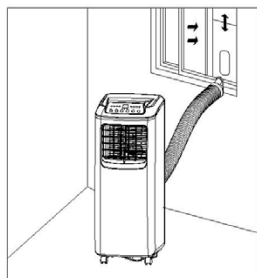

Figure 8
- 2). Snap the flat end of the heat exhaust hose short connector into the elliptical hole of the window sealing board assembly (as shown in Figure 8 and 9).